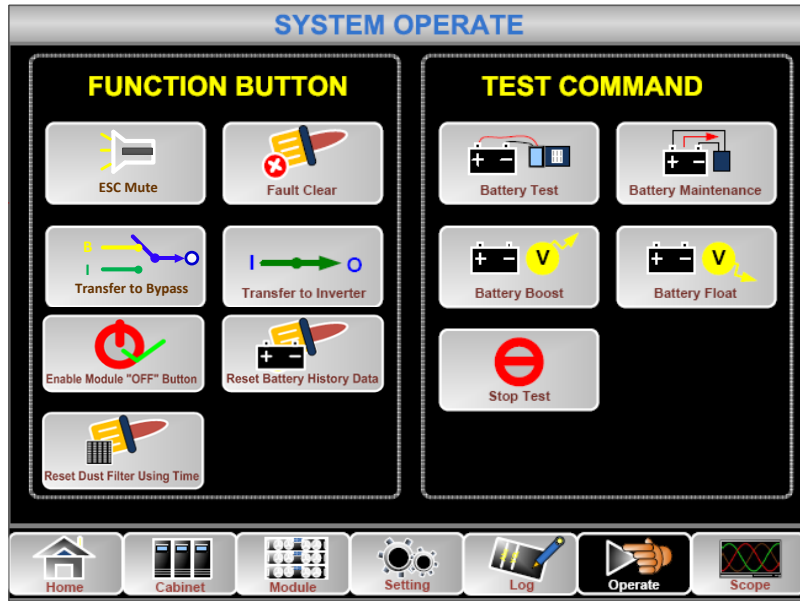

Figure4-3 Battery maintenance
- 1) Manual Discharging test. Enter the menu Operate, as is shown in Figure4-3 and touch the icon "Battery maintenance"  , the system transfers into the Battery mode for discharging. The system will stop discharging when the battery will have 20% of capacity or in low voltage. Users can stop the discharging by touching the "Stop Test" icon  .